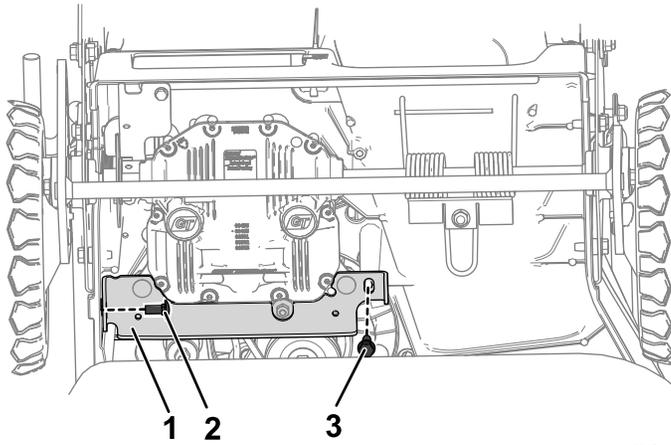

Figure 33
- D. Remove the hex-head bolt and carriage bolt that are holding the transmission bracket onto the frame (Figure 33).